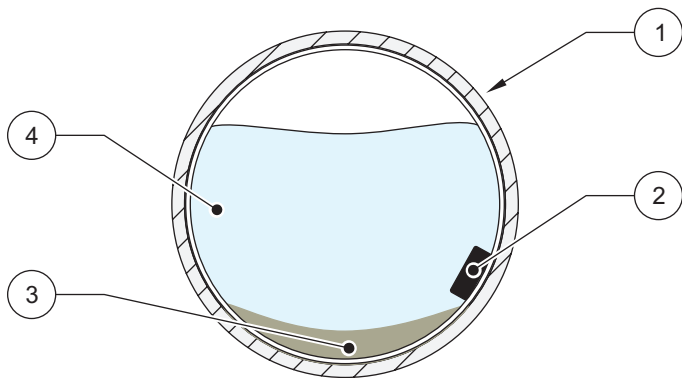

Figure 32 Avoiding Silt when Mounting the Sensor
**Note:** If there is a large amount of silt at the bottom of the pipe, rotate the band until the sensor is out of the silt (Figure 32 on page 56), assuring that the sensor remains below the minimum expected water level at all times. The silt should not be disturbed and must be measured frequently.